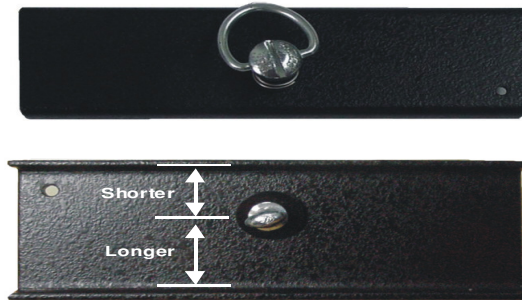

Figure 3-4: Mounting Bracket detail
3.2.4 Slide the ChannelMaster into the Control Drawer. Retrieve the two mounting brackets (see Figure 3-4). (Note: On later versions, the bracket is integrated into the housing.)